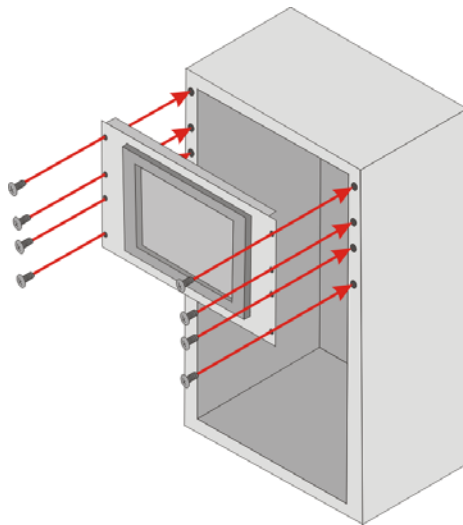

Figure 3-16: Install into a Rack/Cabinet
Step 6: Slide the flat bezel panel PC with the attached rack/cabinet bracket into a rack or cabinet (**Figure 3-16**).
Step 7: Once the flat bezel panel PC with the attached rack/cabinet bracket has been properly inserted into the rack or cabinet, secure the front of the rack/cabinet bracket to the front of the rack or cabinet (**Figure 3-16**).